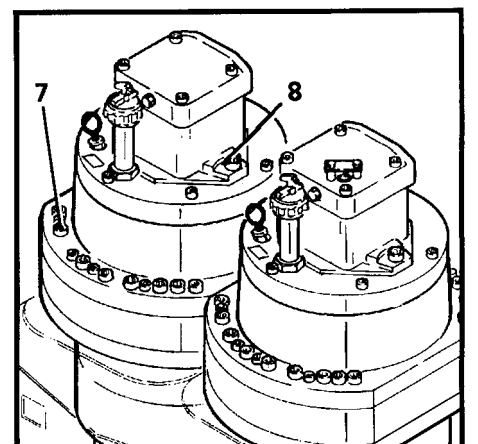

Fig. 51
The mounting bolts M30 of the swing gear (Fig. 51, pos. 7) must be torqued to 2100 Nm (1550 ft.lbs).